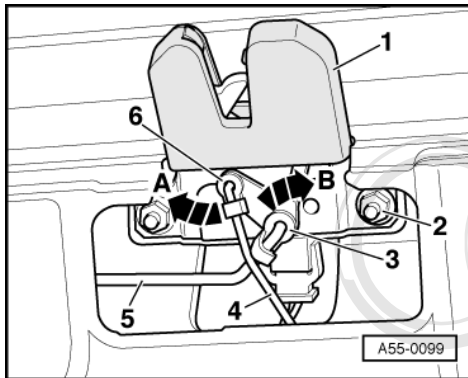

Fig.1-> Detaching and attaching operating rod and connecting rod
- ◆ Clipping in and unclipping tailgate lock => Fig. 1 .